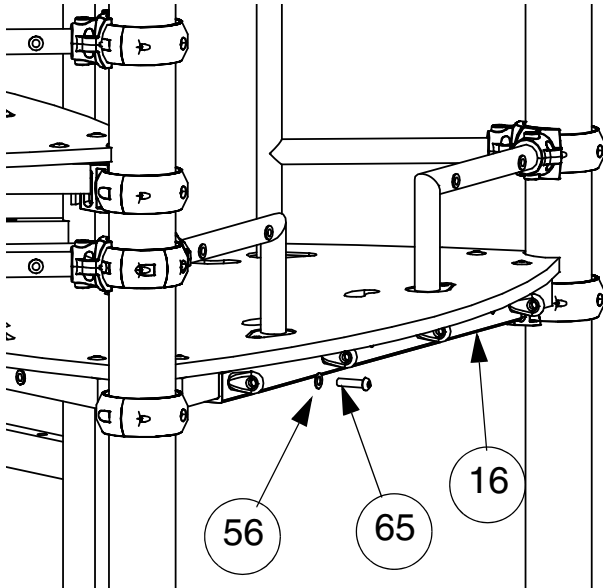

FIG.46
- 51) Assemble Rope Net Mounting Bracket (item 16) to lower deck (900mm) mounting face using 3 off M10 x 30 Resistox bolts (item 56) and Washers (item 65). See FIG.46 & 47.